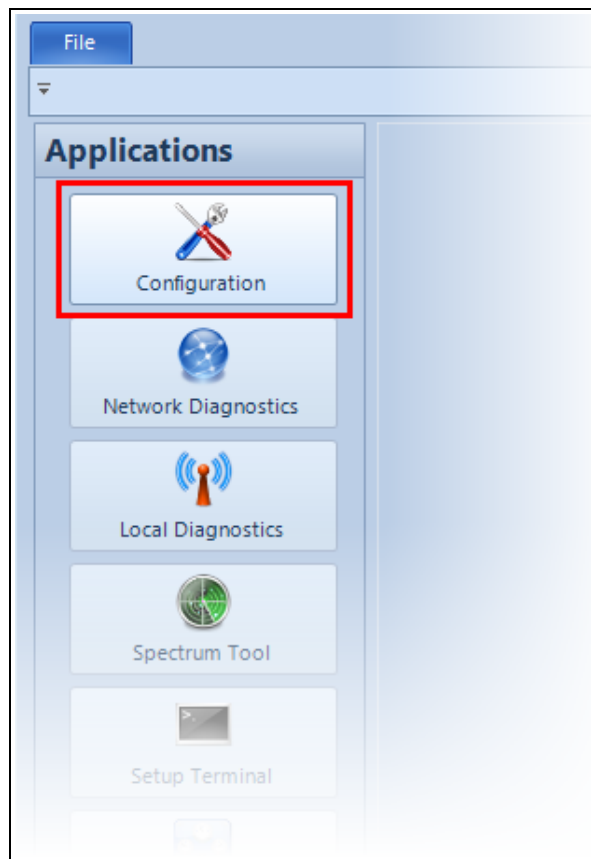

Figure 8: Configuration button
1. In Tool Suite, click **Configuration** in the **Applications** pane. (Figure 8)